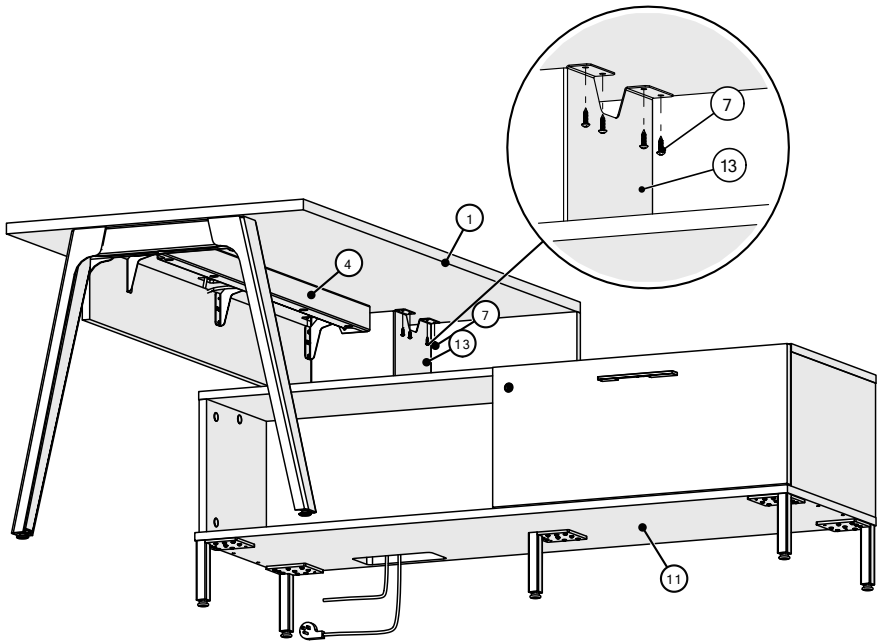

Figure 12
- 14. Flip and install the desk by attaching the worksurface to desk support box using the #8 x 5/8, Pan Quadrex drive Screw, (Figure 12).